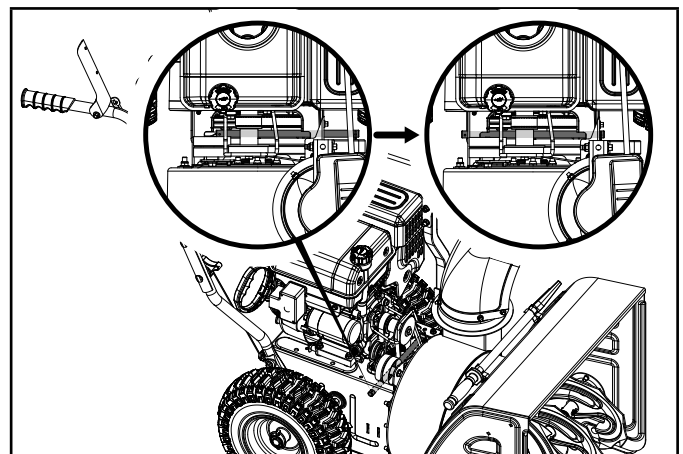

Figure 36
11. Reassemble the support rod by pushing back into place and ensure that it is properly engaged into the friction disc assembly and replace the washer and clip (Fig. 36).